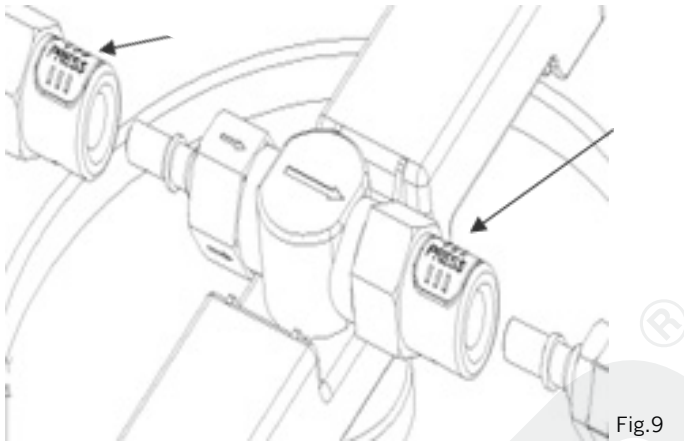

Fig.9
3. Disconnect the CO₂ cartridge and pull the beer hose out, by pressing the white release button (Fig. 9). It is easier if you press the two connecting elements together while doing this.